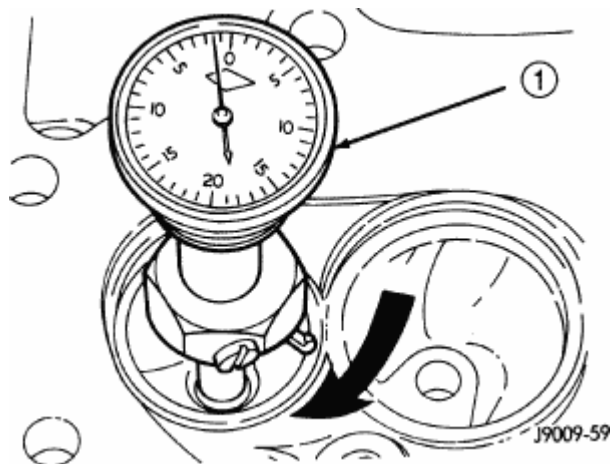

Fig. 91: View Of Dial Indicator
2. Measure the concentricity of valve seat using dial indicator. See **Fig. 91**. Total runout should not exceed 0.051 mm (0.002 in.) total indicator reading.